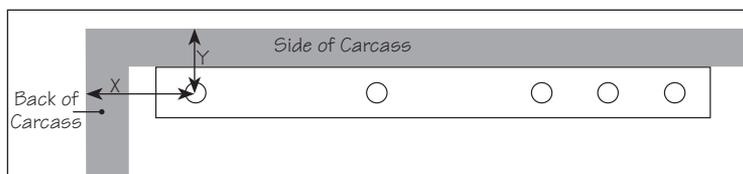

Figure 2: Measuring the location of the first screw mounting hole.
1. Close the hinge and measure the distances of X and Y (shown in **Figure 2**) from the center of the screw mounting hole closest to the back of the carcass.